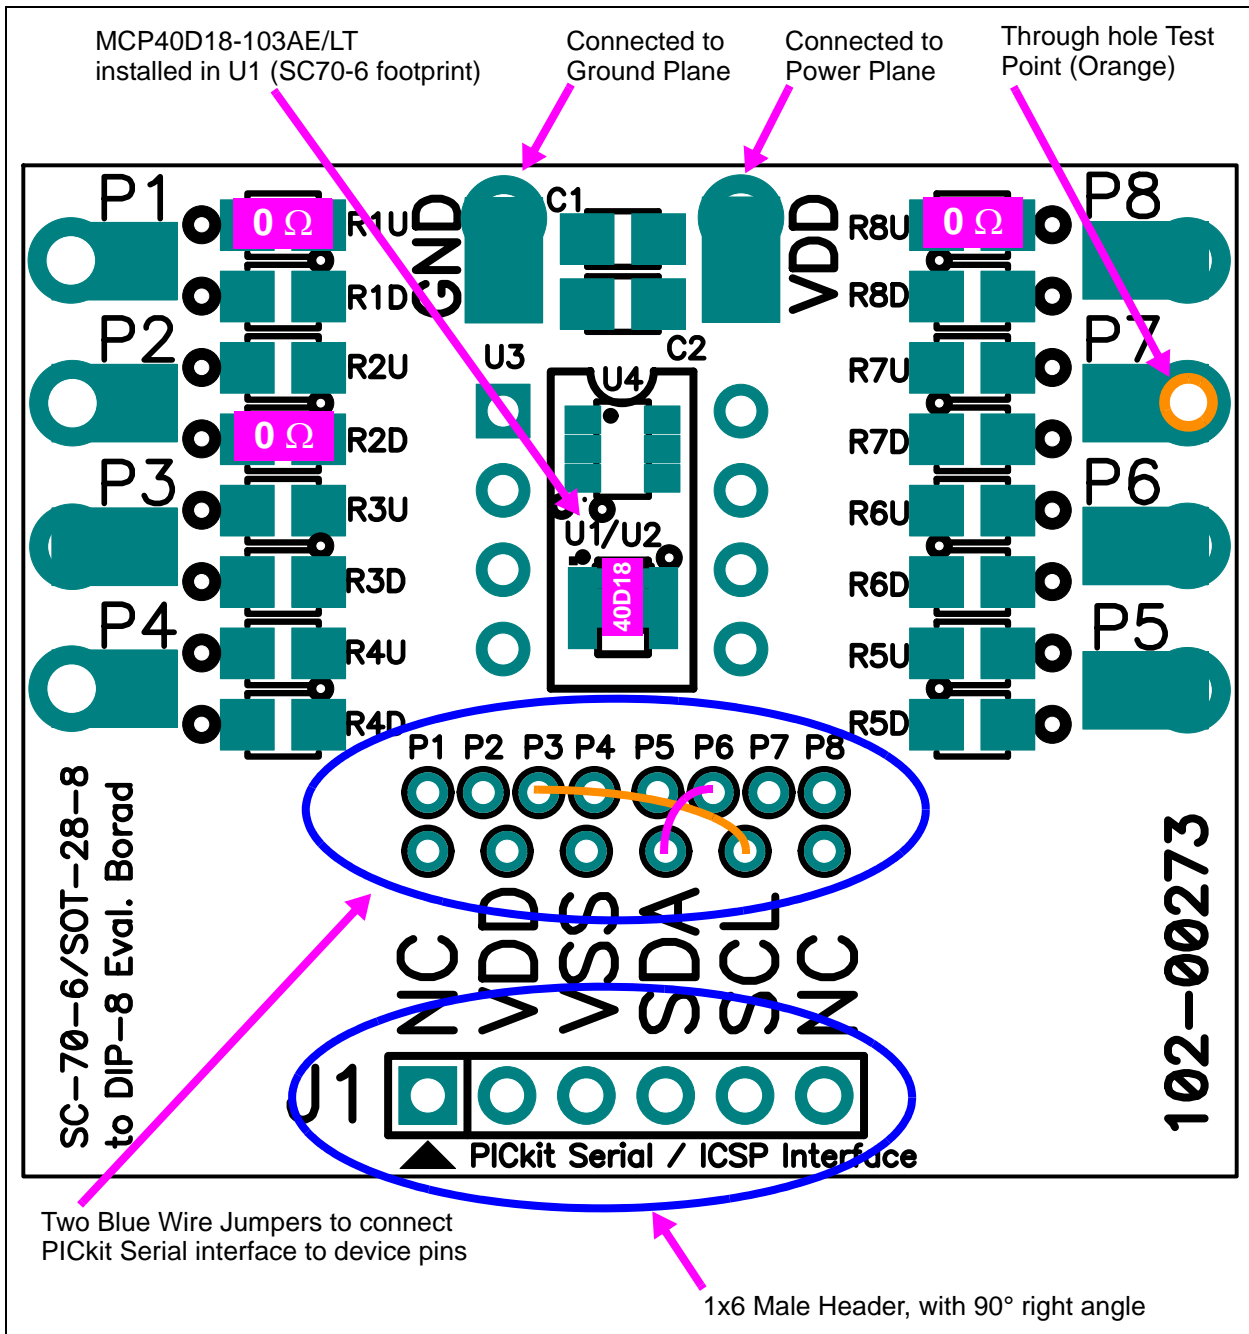

FIGURE 2-2: MCP401XEV Evaluation Board Component Placement Using the SC70EV Evaluation Board (Top).
Additional information on using the SC70EV Evaluation Board PCB or for modifying the MCP401XEV board is available in the SC70EV User's Guide (DS51874). **Appendix A. "Schematic and Layouts"** has information on the PCB schematic and layout while Figure 2-2 shows components that are installed on the PCB.
- 0Ω resistors connect MCP40D18 VDD and VSS signals to the appropriate Power or Ground plane (see Figure 2-2)
- 0Ω resistors connect MCP40D18 A terminal signal to Power plane, Resistor Network is in a voltage divider configuration (see Figure 2-2)
Figure 2-2 shows the component layout of the MCP401XEV Evaluation Board. This is a small four-layer board (1.43" x 1.255" (36.322 mm x 31.877 mm)). There are ten connection points/pads that can use either through-hole or surface-mount connector posts.
| — | Blue Wire: J1 SCL via to P3 via J1 SDA via to P6 via | See Figure 2-2 |